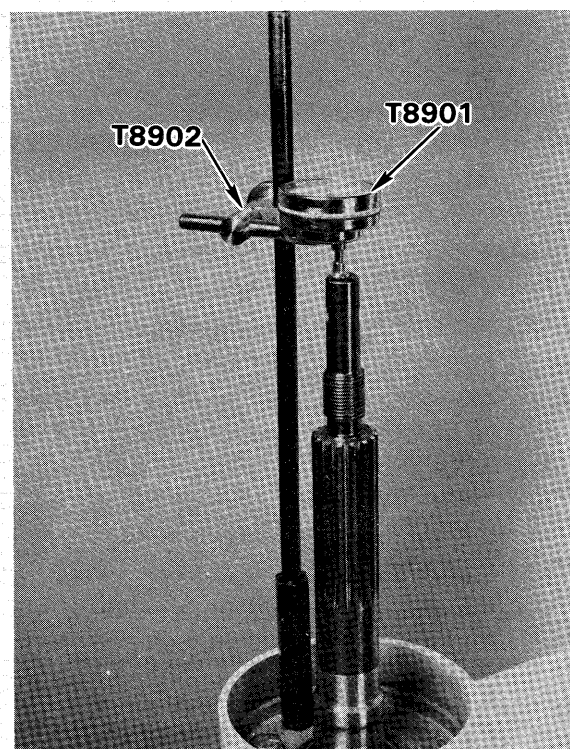

Figure 30—Position of Dial Indicator
- J. Install dial indicator holder (Special Tool T8902) and dial indicator (Special Tool T8901) on dial indicator post. Set foot of dial indicator so that it contacts machined surface at end of prop shaft. See figure 30.